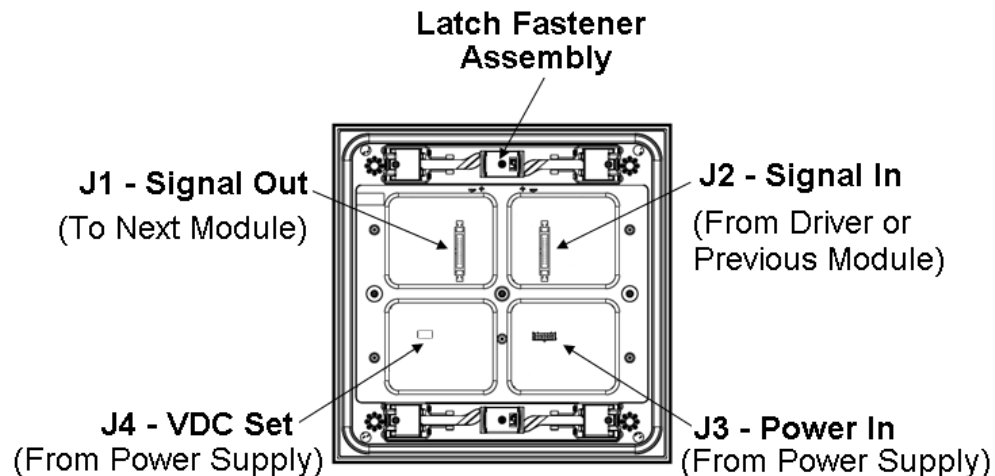

Figure 29: Module, Rear View
2. Use a 1/8" hex wrench or 7/32" nut driver to loosen the latch fastener assembly (**Figure 29**). Turn each fastener a quarter-turn clockwise (if using a nut driver, turn the top latch counter-clockwise and the bottom latch clockwise).